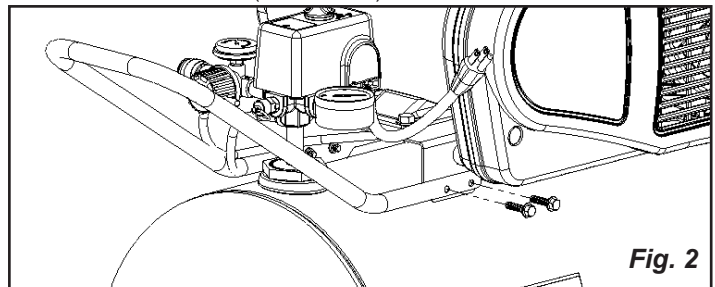

Fig. 2
3. Attach handle to compressor as shown in Fig 2.